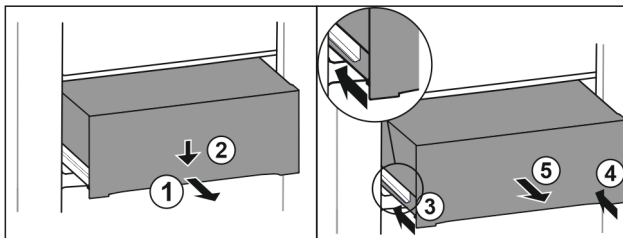

Fig. 213
- ▶ Pull out drawer half-way. *Fig. 213 (1)*
- ▶ Push the drawer down at the front. *Fig. 213 (2)*
- ▶ Push the left rail in by about 2 cm. *Fig. 213 (3)*
- ▶ Push the right rail in by about 2 cm. *Fig. 213 (4)*
- ▶ Remove drawer to the front. *Fig. 213 (5)*